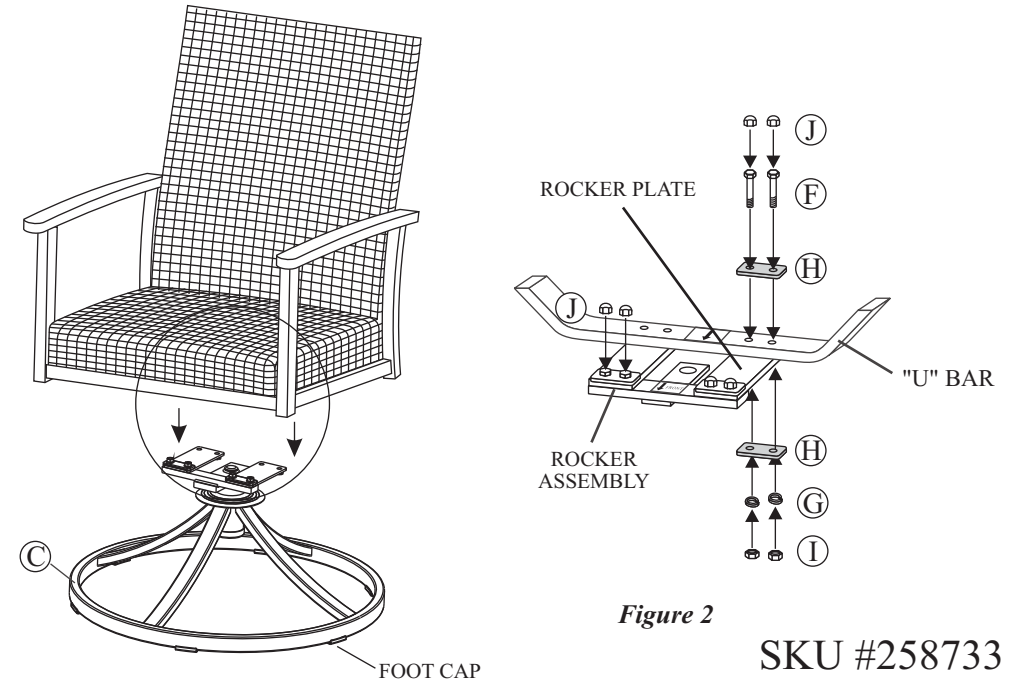

Figure 2
Step 4: Important: We recommend 2 people work together to assemble the chair. Note the arrow labels on the "U" bar and the rocker assembly. Also note the horseshoe shape of the rocker plate. Point the open end of the horseshoe away from you. The arrows on the rocker assembly should be pointing towards you. Set the chair frame on the rocker assembly with front of the seat facing you and the arrows on the "U" bar pointing towards you as shown in **Figure 2**. This is very important for a safe, balanced rocking motion. **If the chair frame has been properly positioned on the rocker assembly, all arrows on the "U" bar and rocker assembly will be pointing in the same direction.**
Step 5: Critical Step: The four metal plates must be installed in the proper location. Read this step and carefully examine the **Figure 2**. Place a metal plate on the topside of the "U" bar, aligning the holes in the metal plate with the holes in the "U" bar. Guide the bolts through the holes in the metal plate, through the holes in the "U" bar, through the holes in the rocker plate and then, most importantly, through the holes in the metal plate which must be placed directly beneath the rocker plate (See **Figure 2**). Add a spring washer and a nut to the end of each bolt. Hand tighten nuts 3-4 revolutions only. Repeat the same procedure on the other side.